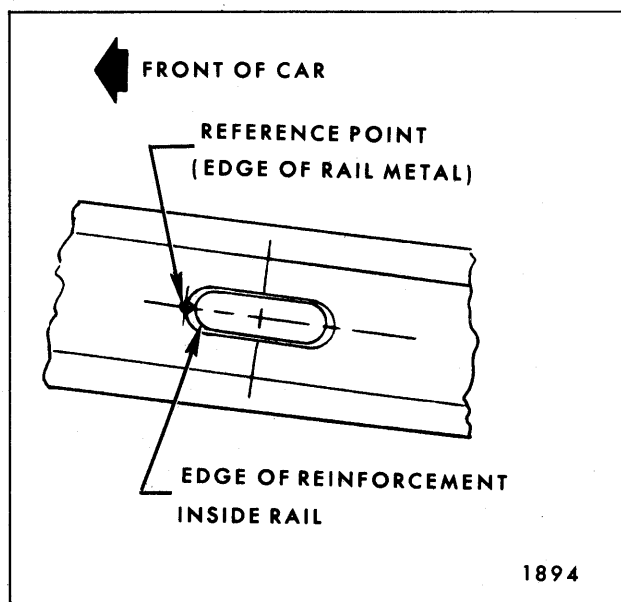

Fig. 3-3—Front Body Tie-Down Slot
flush to the adjacent surface metal. Dimensions to body front tie down slits are measured to the front centerline edge of the slot (see Fig. 3-3). Dimensions to bolt or bolt hole locations are measured to the dead center of the thread diameter of the bolt or bolt hole, unless specified otherwise.
- L 45-23/32 Front suspension front attaching bolt hole or bolt head and body front tie down slot on opposite side of body (use front center of slot of side rail metal - See Fig. 3-3).
- O 31-3/8 Front suspension front attaching bolt hole or bolt head and body front tie down slot on same side of body (use front center of slot of side rail metal - See Fig. 3-3).
- P 40-3/16 Body front tie down slot (use front center of slot of side rail metal - See Fig. 3-3).
- Q 72 Body front tie down slot (use front center of slot of side rail metal - See Fig. 3-3) and 3/4" master gage hole in motor compartment side rail-to-rocker panel brace on opposite side of body.
- R 58-13/32 Body front tie down slot (use front center of slot of side rail metal - See Fig. 3-3) and 3/4" master gage hole in motor compartment side rail-to-rocker panel brace on same side of body.